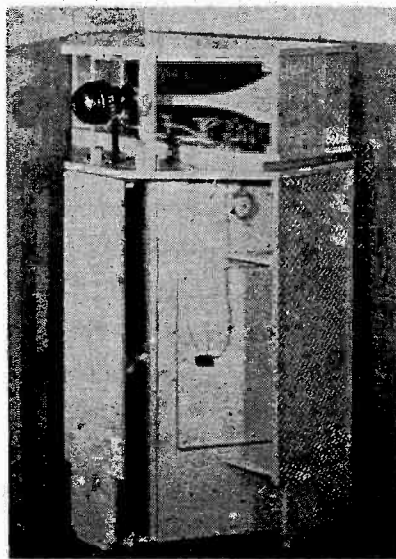

Fig. 1. A 3-way system without controls.
4) *Possible acoustic compensation.* By varying the levels of individual speakers with pads, it is possible to adjust the tonal balance of the system in a way that cannot be done with ordinary amplifier tone controls. Paul Klipsch is vehemently outspoken against pads in speaker lines, so if you want to stay on the safe side of all the authorities, the best solution might be an electronic crossover with separate power amplifiers for each speaker. With this setup, the level on each channel can be adjusted without affecting speaker damping. Klipsch himself uses speakers selected to have similar efficiencies, fed from a three-way dividing network with *no* controls. See Fig. 1.